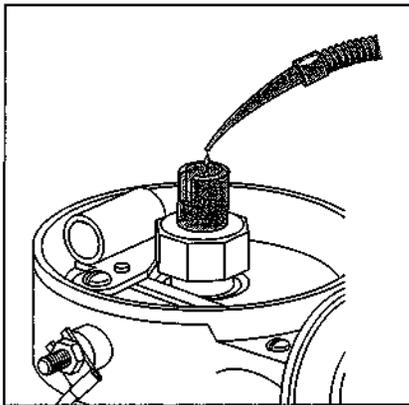

Figure 12-32:
2. Look at the top of the distributor shaft, where the rotor was sitting. If there's a wick inside it, place a few drops of light engine oil on the wick in the shaft, as shown in Figure 12-32.